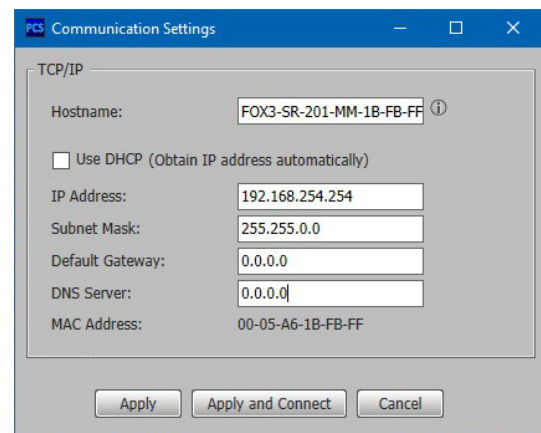

Figure 21. Communication Settings Box
1. Click on the **Edit** button (3). The **Communication Settings** box pens.
2. Click in the field to edit the address (see figure 21).